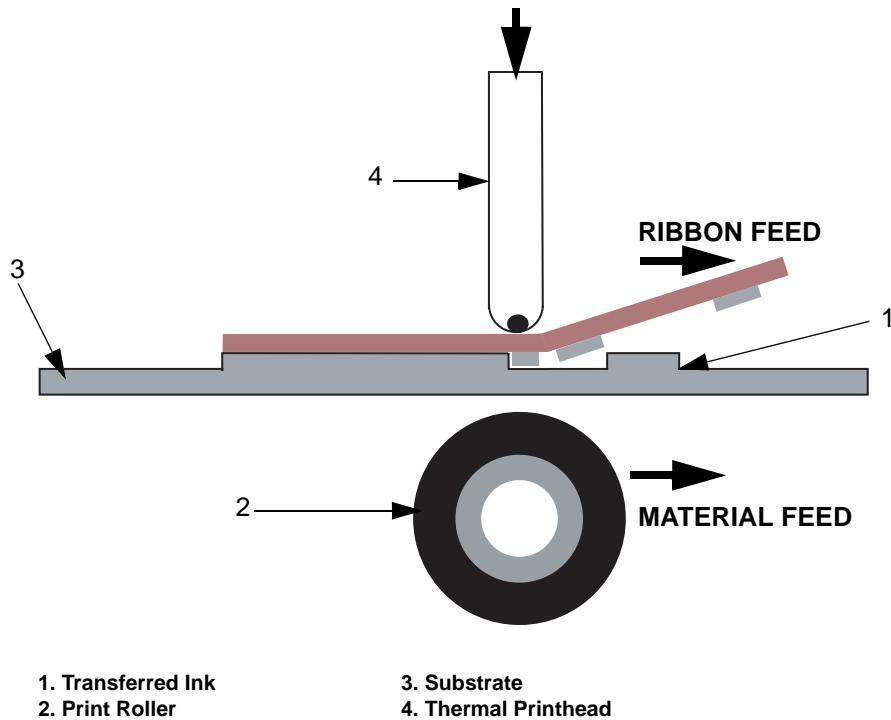

Figure 2-4: Continuous Print Motion
Continuous motion printing (Figure 2-4 on page 2-5) is used for printing on moving packaging films in packaging equipment that has a continuous moving action each time a product is packed. Such applications can be found in Continuous VFFS and Horizontal Form Fill Seal (HFFS) or flow-wrap machines.
- The substrate (item 3, Figure 2-4 on page 2-5) moves while the printhead (item 4) is stationary.
- The printhead pushes the substrate against a rotating print roller (item 2).